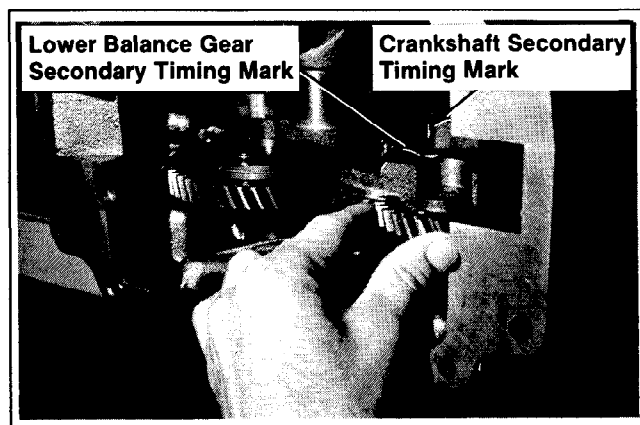

Figure 12-29. Aligning Lower Balance Gear And Crankshaft.
4. Install the 3/8" spacer and one (1) .010" shim spacer to the stub shaft for the lower balance gear.
5. Position the crankshaft so it is about 15° past bottom dead center (BDC). Align the secondary timing mark on lower balance gear with the secondary timing mark on crankshaft. Refer to Figure 12-29.